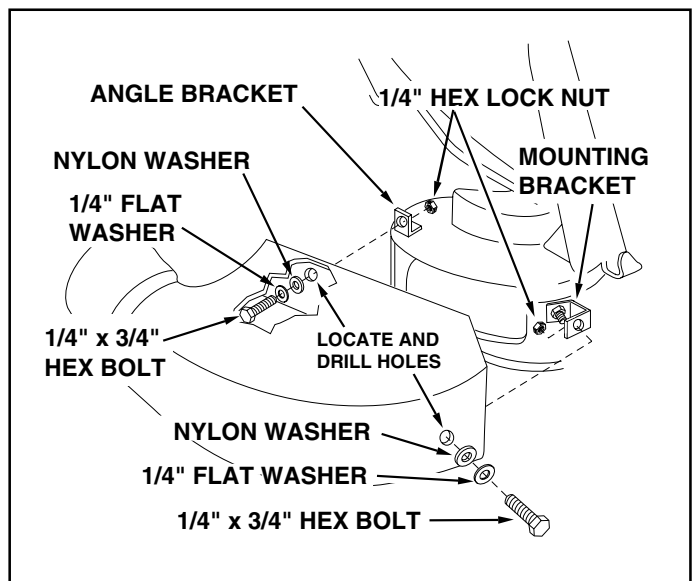

FIGURE 28
3. Drill two 5/16" diameter holes in the deck adapter that will align with the holes in the angle bracket and the mounting bracket. Assemble the deck adapter to both brackets using two 1/4" x 3/4" hex bolts, 1/4" flat washers, nylon washers and 1/4" hex lock nuts. See figure 28.